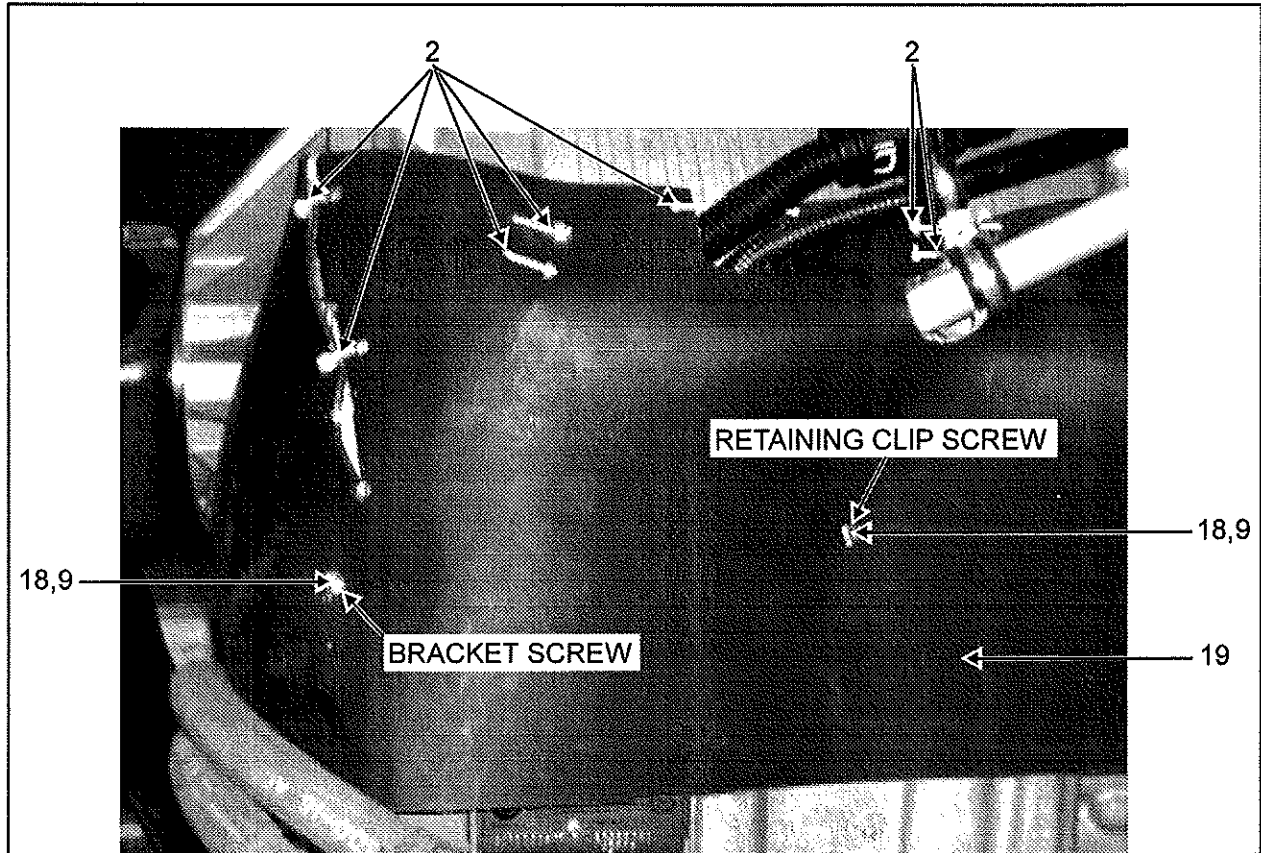

FIGURE 10
20. Slide transmission harnesses' shield (19) behind both hydraulic hoses, fit shield through retaining clip screw installed in previous step 11 and through bracket screw installed in previous step 13 (step 14 for vehicle with a retarder) (**Figure 10**).
21. Secure shield to screws using washers (18) and nuts (9).
22. Attach transmission harnesses' shield using cable ties (2).